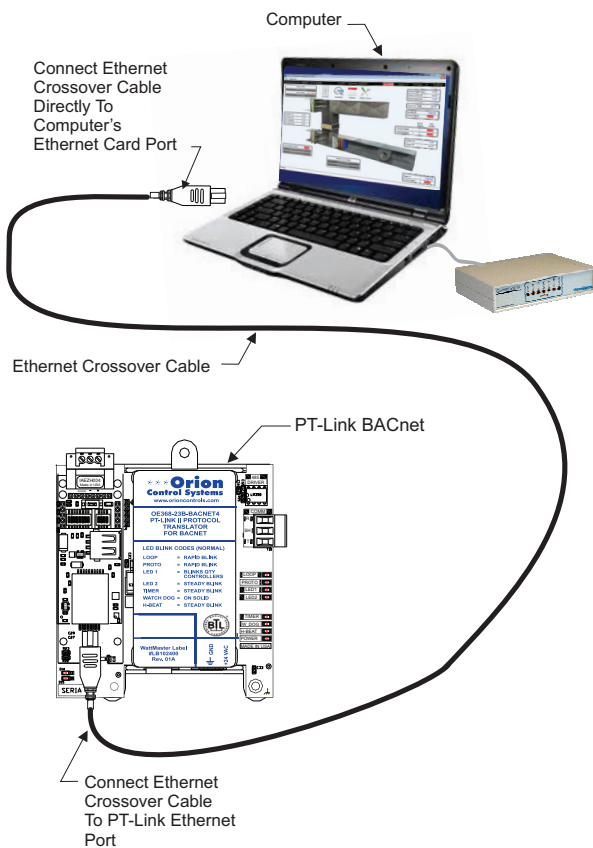

Figure 4: Connecting With Crossover Cable
- 1.) Connect the PT-Link II directly to your computer by using a standard CAT5 or crossover cable (by others) as shown. See **Figure 4** for details.